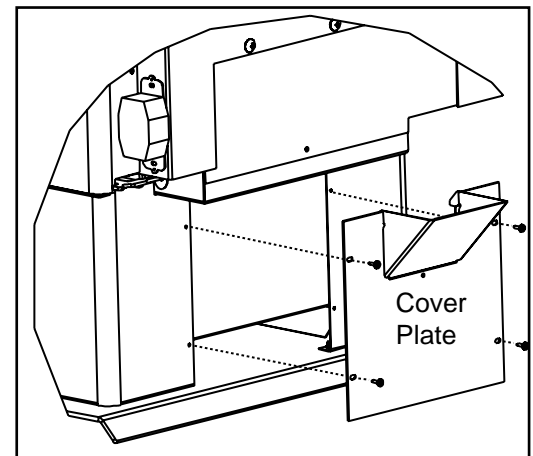

Figure 22.3
**NOTE:** If installing a floor installation of an outside air kit on a Step Top model with a pedestal assembly you must attach the enclosed cover plate to the back of the stove. Other wise you may discard this piece. **See Figure 22.3.**